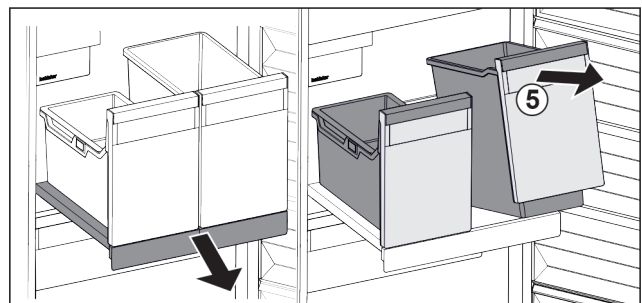

Fig. 93
- ▶ Lift the container *Fig. 93 (5)* at the front.